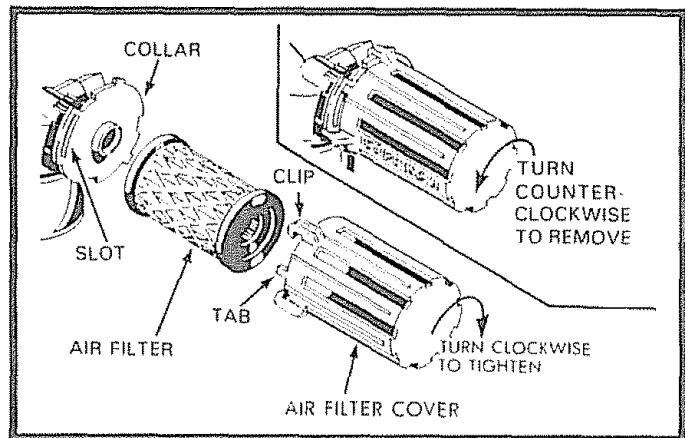

FIG. 8
- Remove the air filter cover by turning counter-clockwise to the stop and pull away from collar (See Fig. 8).
- Remove filter from inside of cover (See Fig. 8).
- Push in on cover and turn clockwise to tighten (See Fig. 8).